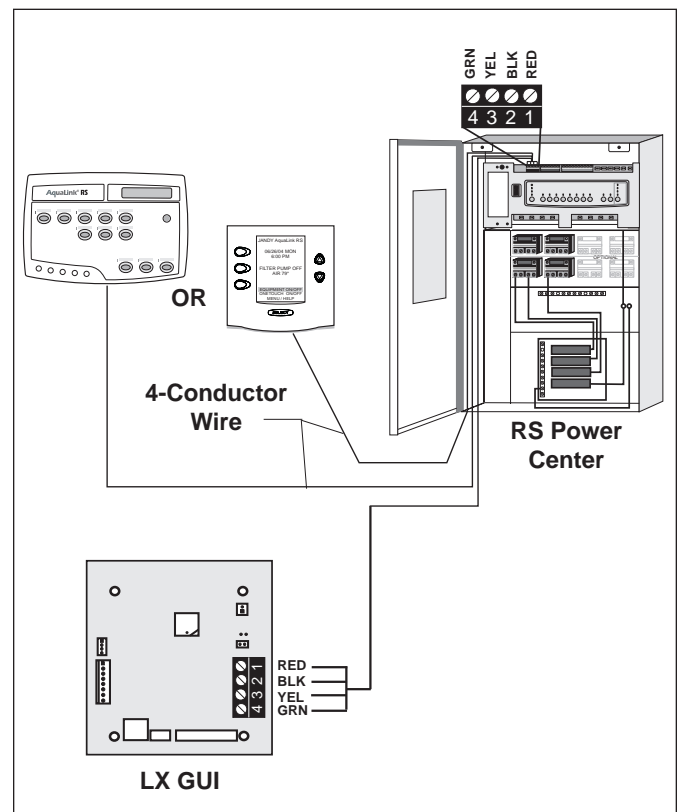

Figure 10. Jandy LX Heater Connection to Power Center
3. Run a 4-conductor cable from the LX GUI red, 4-pin connector to the RS power Center red, 4-pin connector (see Figure 10).